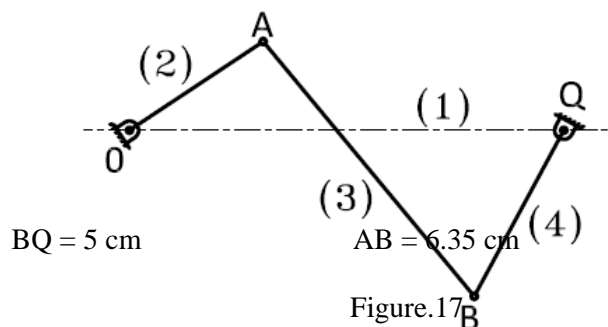

Figure.17
- 1.5 In the four-bar mechanism shown in Figure.17, axes O and Q are fixed. Prove that it is a crank-lever four-bar mechanism and name its crank. Determine the two extreme positions of the lever and the angle through which it oscillates.